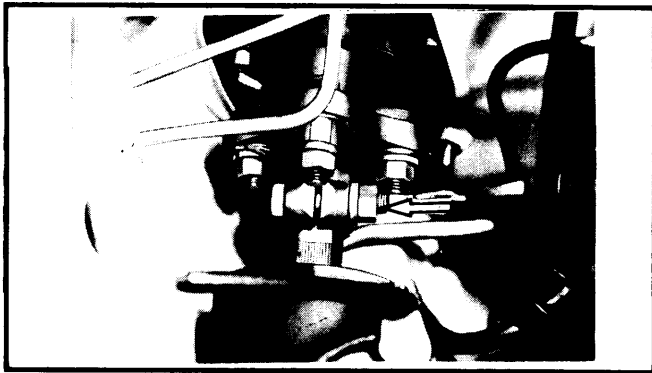

Fig. 1 Pinch Bolt Mounting Mainshaft to Steering Gear
**Removal** – 1) Working from inside engine compartment, remove bolt mounting steering mainshaft to steering gear box (Fig. 1). Before separating units, index mark for reinstallation and place front wheels in straight-ahead position.